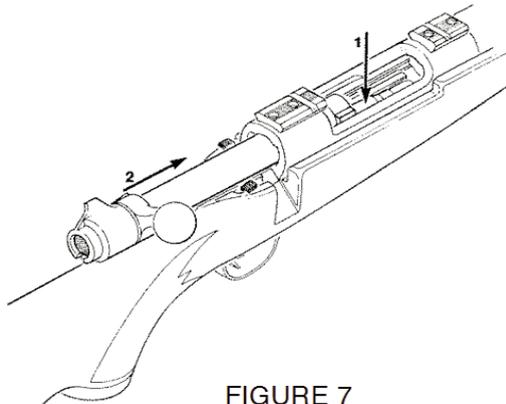

FIGURE 7
If you wish to load the magazine but close the bolt on an empty chamber, press up to (4) cartridges down into the magazine, one at a time. BEFORE closing the bolt, depress the top cartridge in the magazine with your thumb while slowly sliding the bolt forward so that it overrides the top cartridge in the magazine (Fig. 7). Keeping the muzzle pointed in a safe direction, remove your thumb and finish closing the bolt watching to make sure that no cartridge is pushed into the chamber.